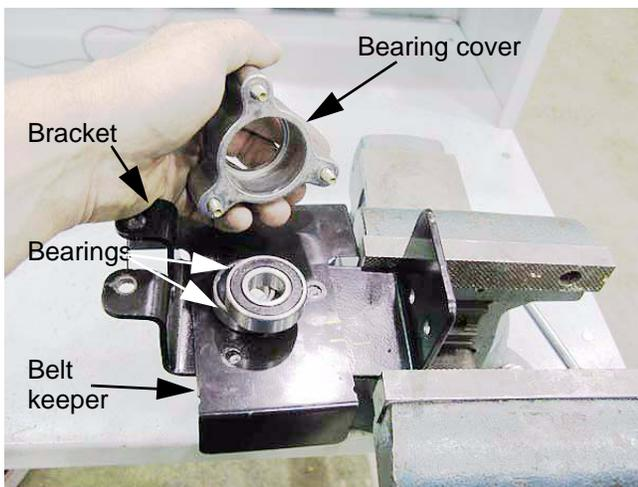

Figure 6.47
- 9e. Remove the three screws that fasten the bearing holder to the bracket, and lift away the bearing holder. See Figure 6.47.